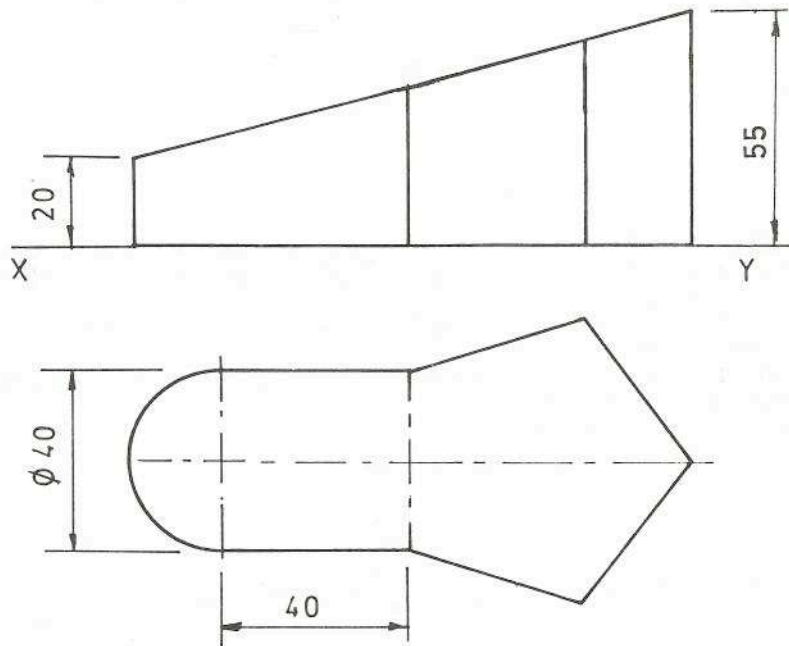

Fig. 2
2. Fig. 2 shows the elevation and plan of a solid. The plan of the solid contains a regular pentagon.